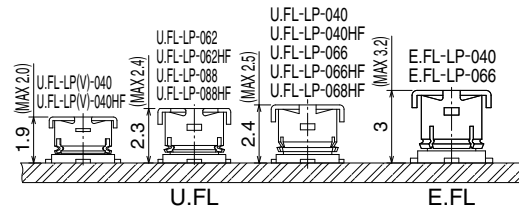

Fig.1
- 1. Nominal mated height of 1.9 or 2.3mm, 2.4mm (Max. 2.0 or 2.4mm, 2.5mm)(Fig.1)**